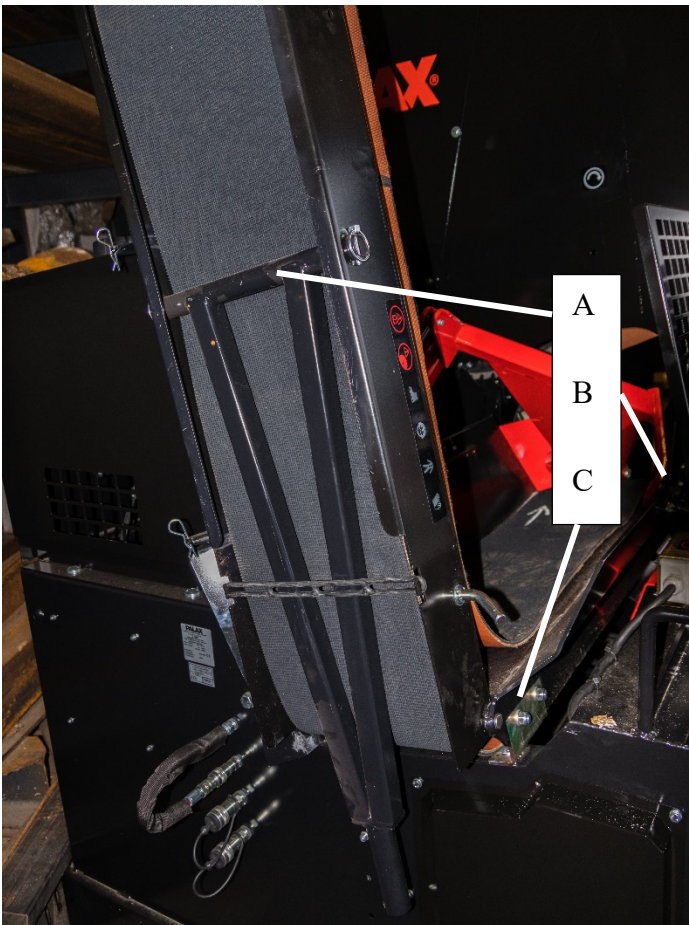

Figure 23
7.9 Replacing the input conveyor belt, figure 23